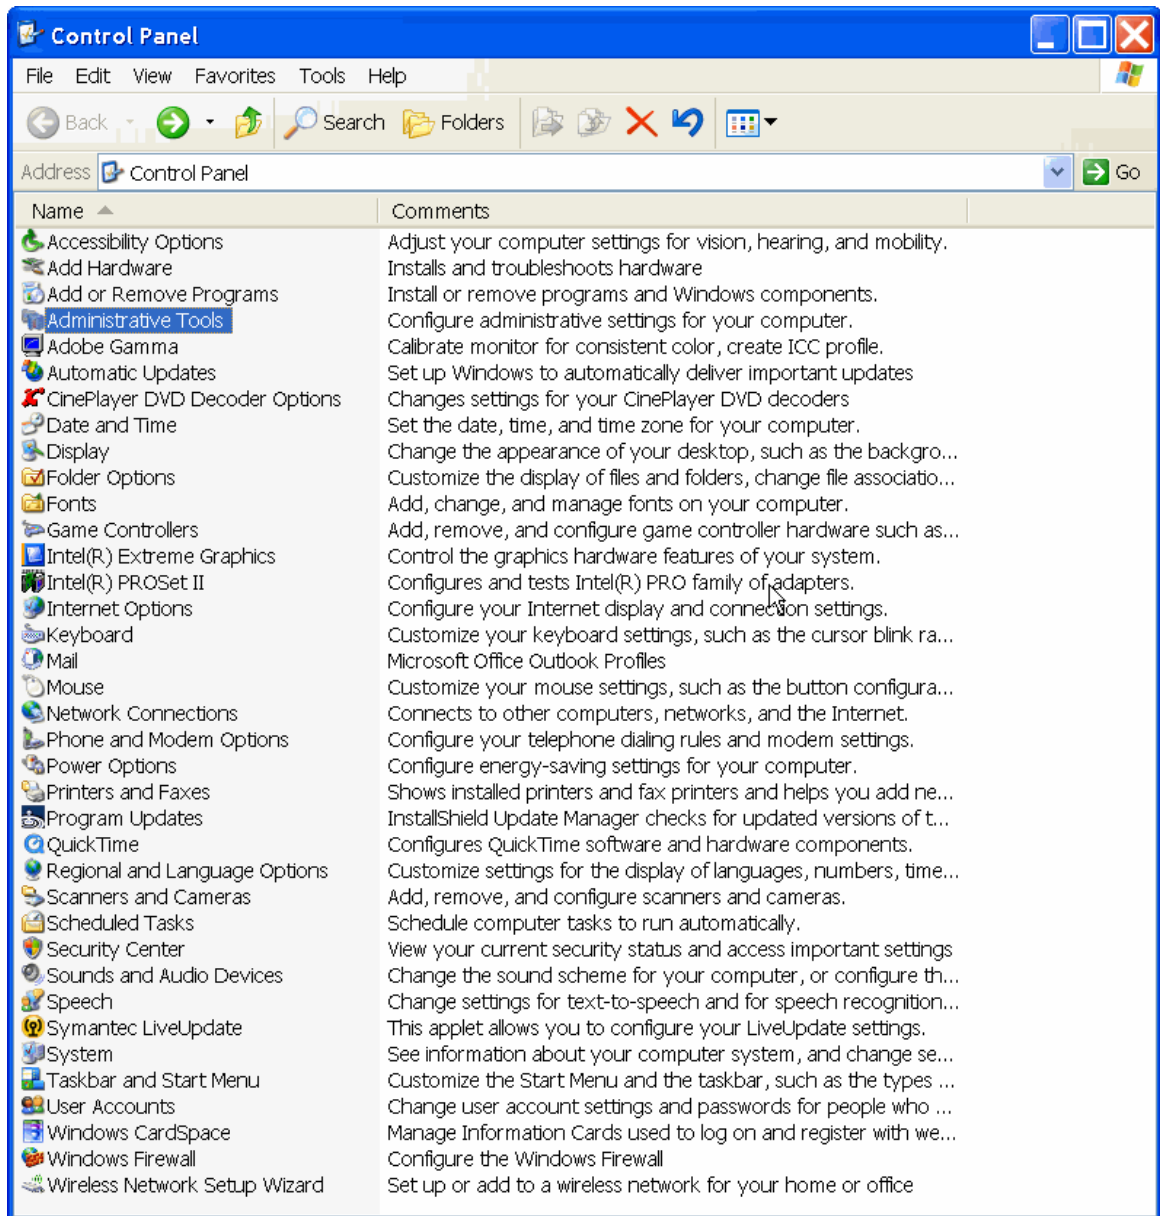

Figure 14. Control Panel Window
1. From the Start menu, select Settings and then the Control Panel. See Figure 14.